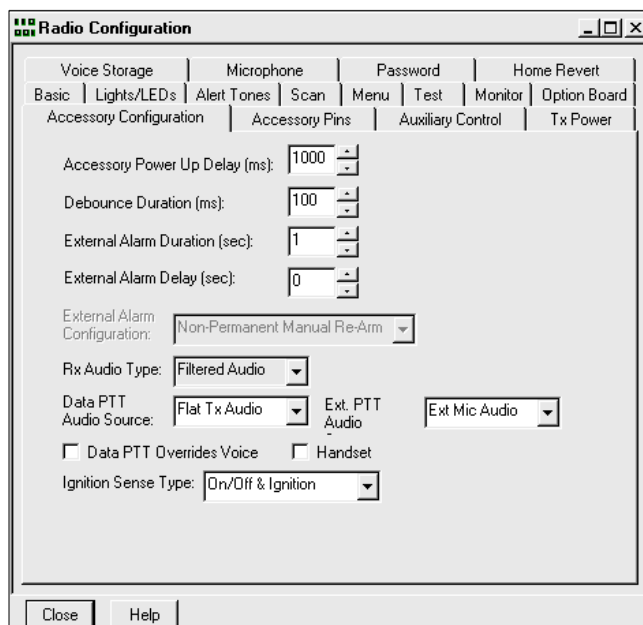

Figure 8-5. Basic (R*I*C*K) Unidirectional Repeater, Accessory Configuration, Transmit Radio
- Click the “Ignition Sense Type:” dropdown arrow button. Select “On/Off & Ignition”. Your screen should appear similar to Figure 8-5.
8. Click the “Ignition Sense Type:” dropdown arrow button. Select “On/Off & Ignition”. Your screen should appear similar to Figure 8-5 on page 8-3.